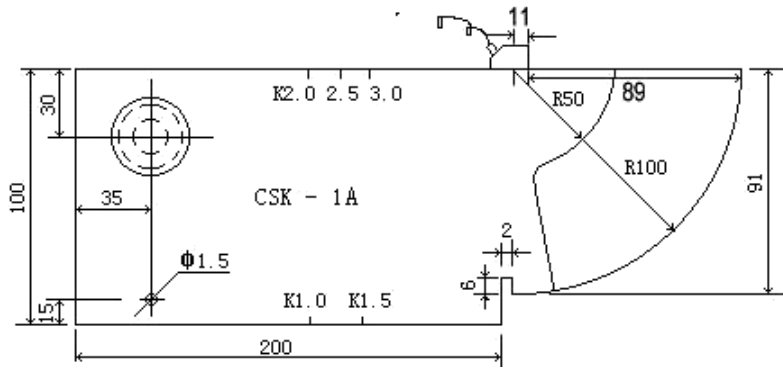
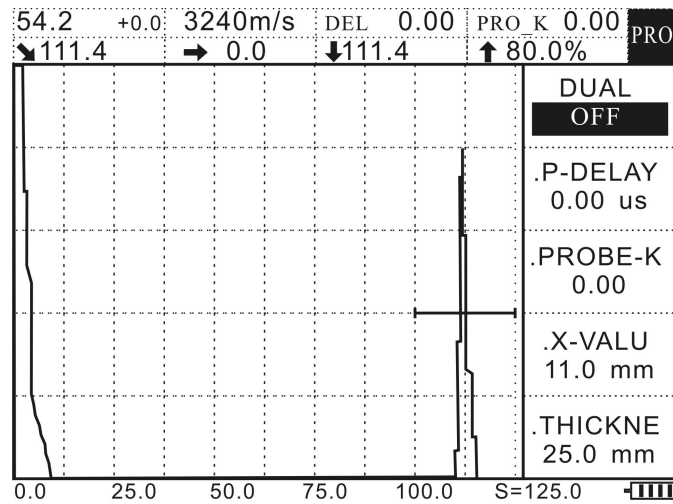

Figure 4-4
Figure 4-5
3. Calibrate the front edge of the probe: put the probe on the test block and move it till the reflector echo of the hollows of R100mm reach the highest level, measure 89mm of the front face of the probe with a ruler, at this point, the front edge value of the probe is: $100-89=11$ mm. As shown in Figure 4-4, after that, press **PROBE** to enter the probe menu, then press  (up) or  (down) to select the probe front edge submenu,  press  (left) or  (right) to set the probe front edge value as 11mm, as shown in Figure 4-5.